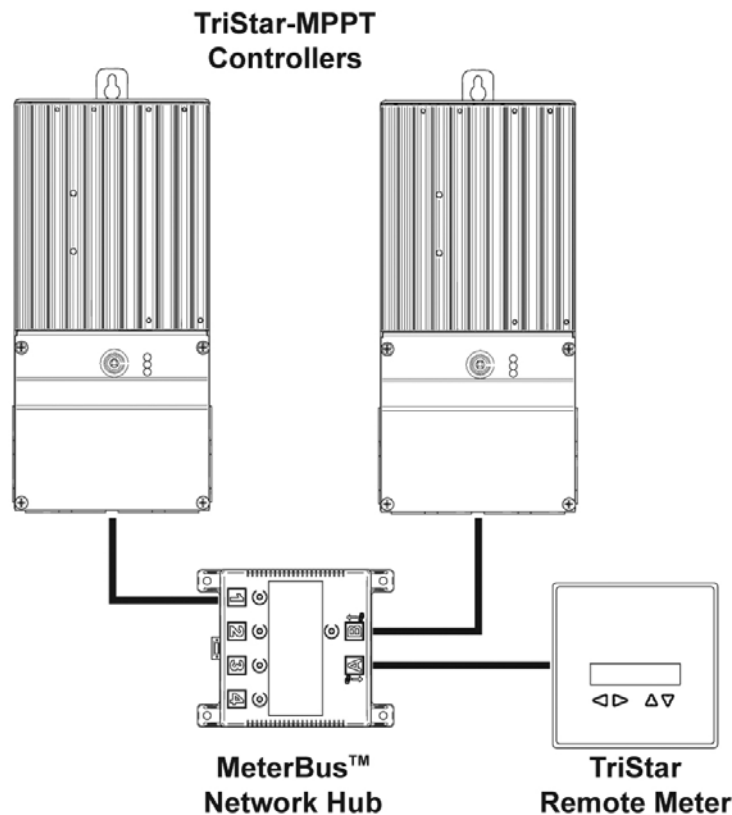

Figure 5-1. An example MeterBus network.
A MeterBus Hub (model: HUB-1) is required for MeterBus networks containing multiple TriStar MPPT controllers. The ports on the hub are electrically isolated to prevent damage in the event of broken grounds or voltage differences between controllers. Figure 5-1 below shows an example MeterBus™ network with two (2) TriStar MPPT controllers and a TriStar Remote Meter 2 (TS-RM2).